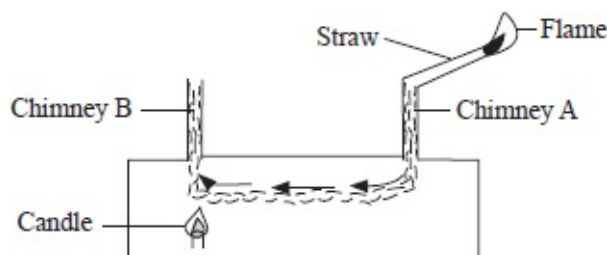

Fig. 7.17: Convection in gases
- Light the candle beneath chimney B, as shown in figure 7.17.